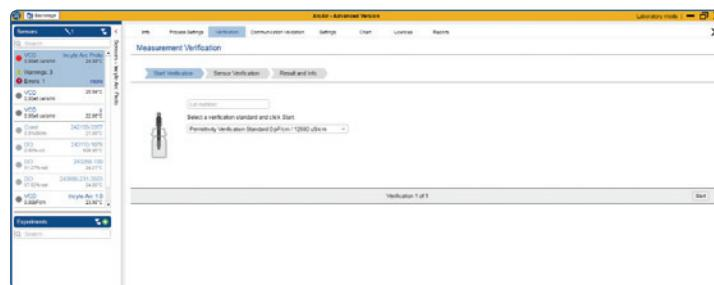

Figure 28: Sensor Verification
- 2) Go to the «Verification» (figure 28).